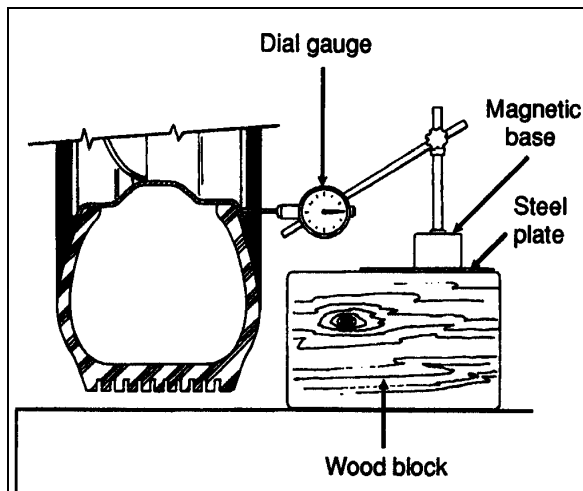

FIGURE 4: DIAL GAUGE INSTALLATION 13008
2. Check wheel lateral run-out. Install a dial gauge as shown in figure 4, then rotate the wheel by hand one full turn. As the wheel turns, note any variation on the dial gauge;